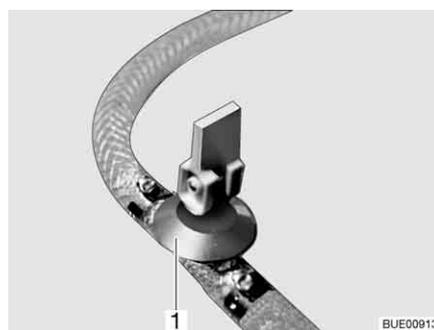
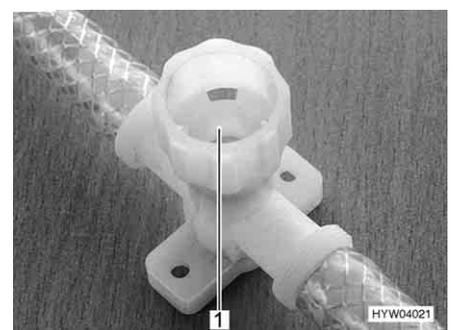

Fig. 225 Drain cock (with rocking lever)
Fig. 226 Drain cock (with twist cap)
- Close all drain cocks. To do this, position the drain cock's rocking lever (Fig. 225,1) horizontally or turn the drain cock's cap (Fig. 226,1) in a clockwise direction.